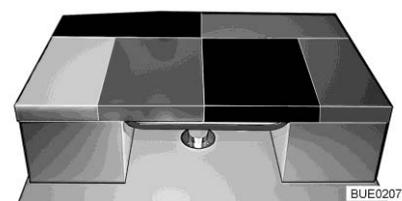

Fig. 159 After conversion
- Place the additional cushion on the table (see Fig. 159).